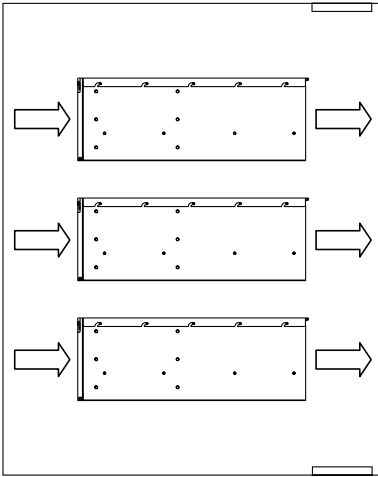

FIGURE 1-7 Airflow Requirements (Open Rack)
4. Airflow requirements differ for an open-rack system and a closed-rack system. FIGURE 1-7 shows the airflow requirements for an open-rack system and FIGURE 1-8 shows the airflow requirements for a closed-rack system.